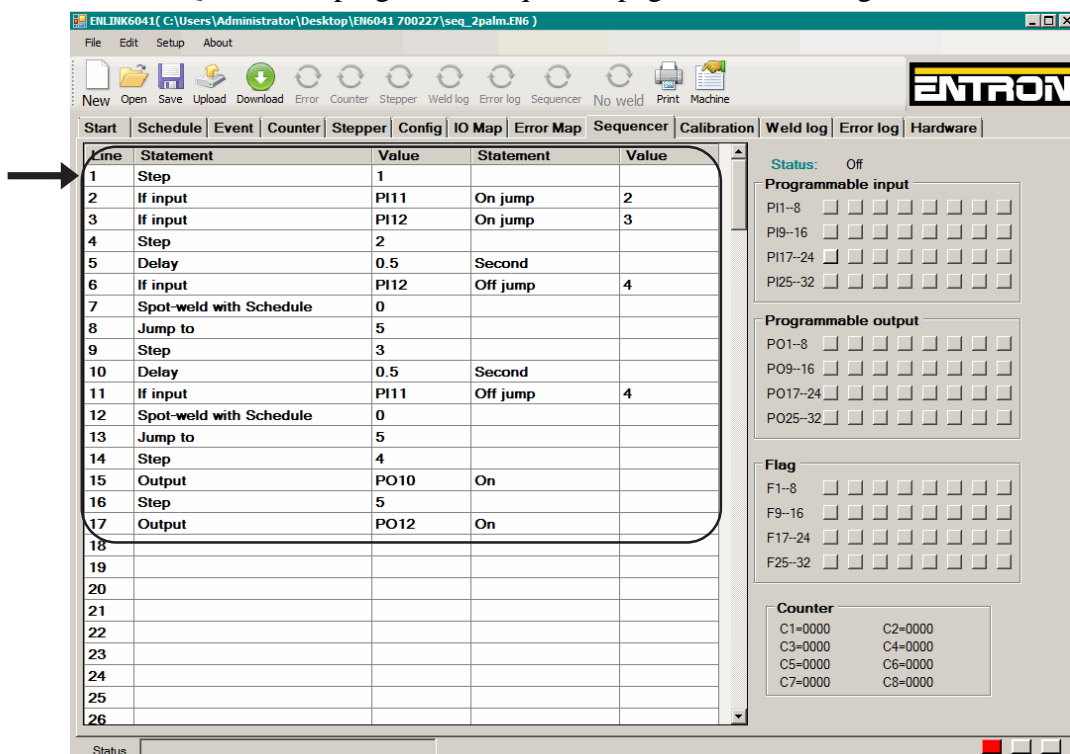

Figure 9-38. Sequencer page
- D. Enter SEQUENCER program on Sequencer page as shown in Figure 9-38.